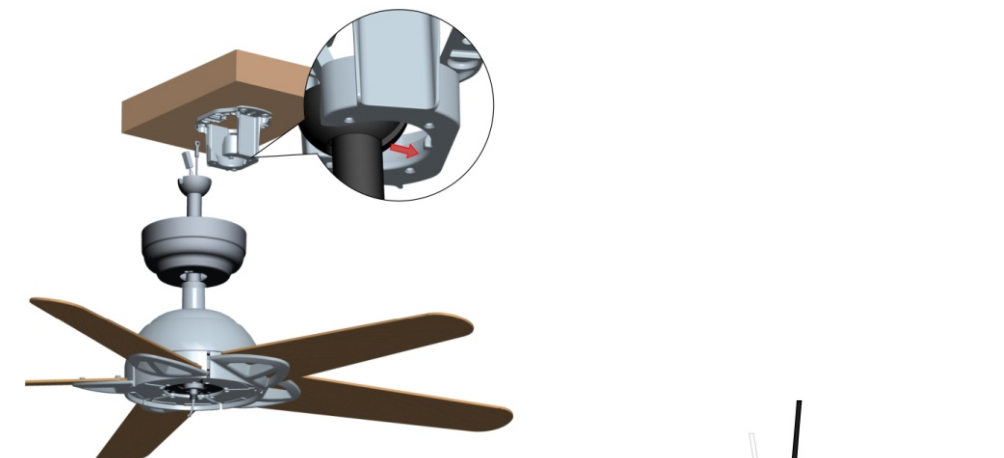

Fig 6.1
- Connect the wire of the power adapter through the bracket as below Fig 6.1: The wires will need to be bound together with electrical tape for added stability. Put the AC Adapter inside the bracket and connect the DC output wire with the wire from motor through the downrod. Make sure all wires are tucked in the canopy. Connect the AC input to the house electricity.
Note: The Green/Yellow wire from bracket connects with the ground wire from supply power, using the wiring cap to tuck the wires together and then hide inside the ceiling. The White wire from AC Adapter connects with the Neutral wire from supply power, the Black wire from AC Adapter connects with the Live wire from supply power, using the wiring cap to tuck the wires together. (Make sure all the wires are connected to the correct colors as shown below Fig 6.1)